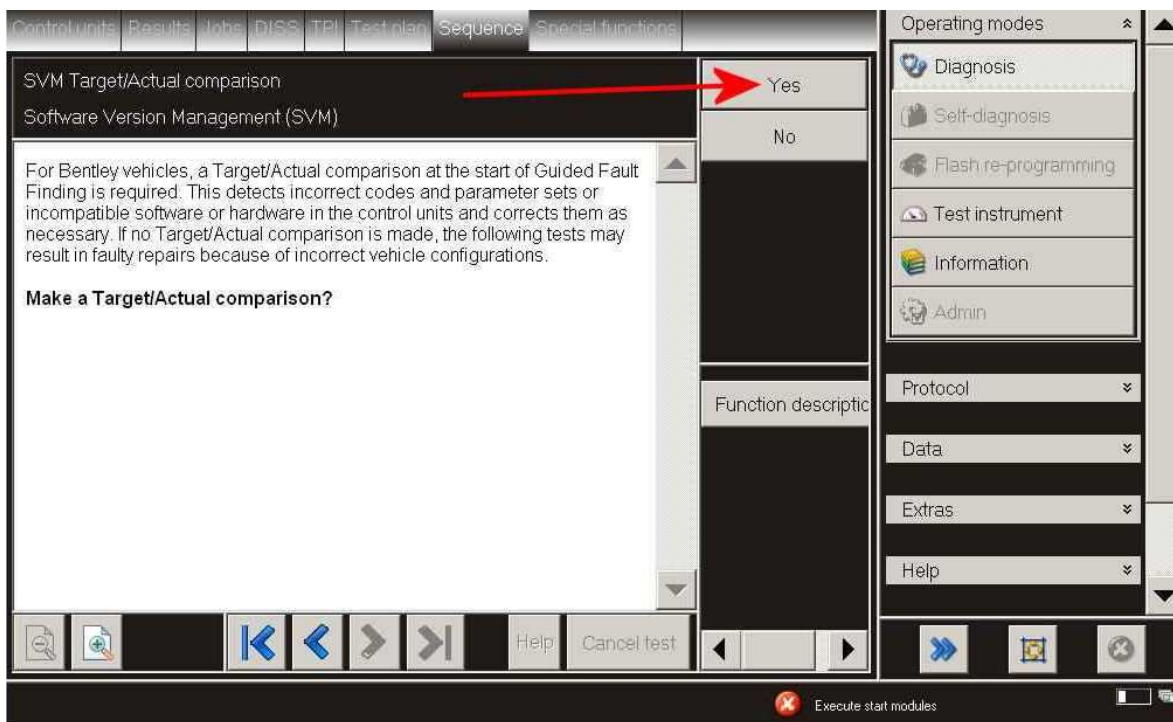

Figure 9
19. When the *Guided Fault Finding* sweep has completed, when prompted to **Make a Target/Actual Comparison** you must Select Yes (Figure 9)